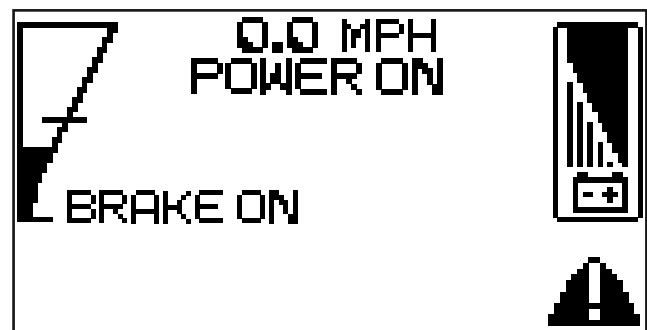

Figure 5-12
4. Once activated (indicator light on and warning symbol on the bottom, right of the LCD screen), the rider can be driven in reverse with the cutting blades engaged. See Figure 5-12.